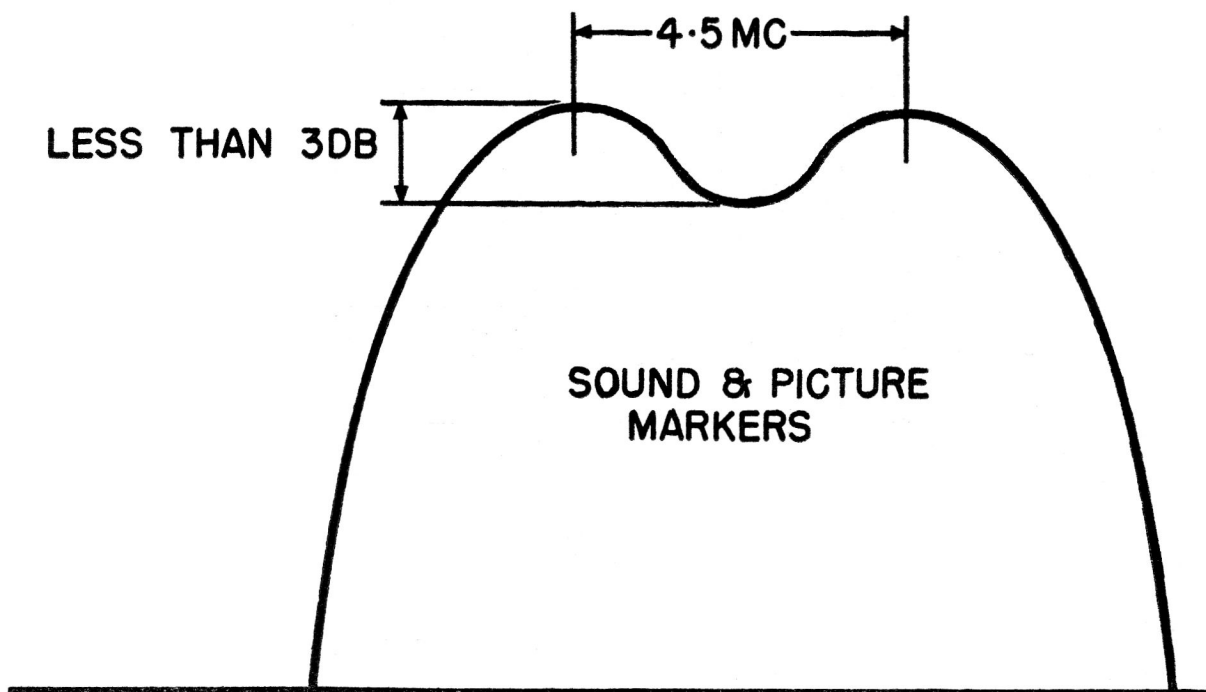

Figure 17
6. Adjust (A), (B), and (C) on tuner for the response curve shown in Figure 17.